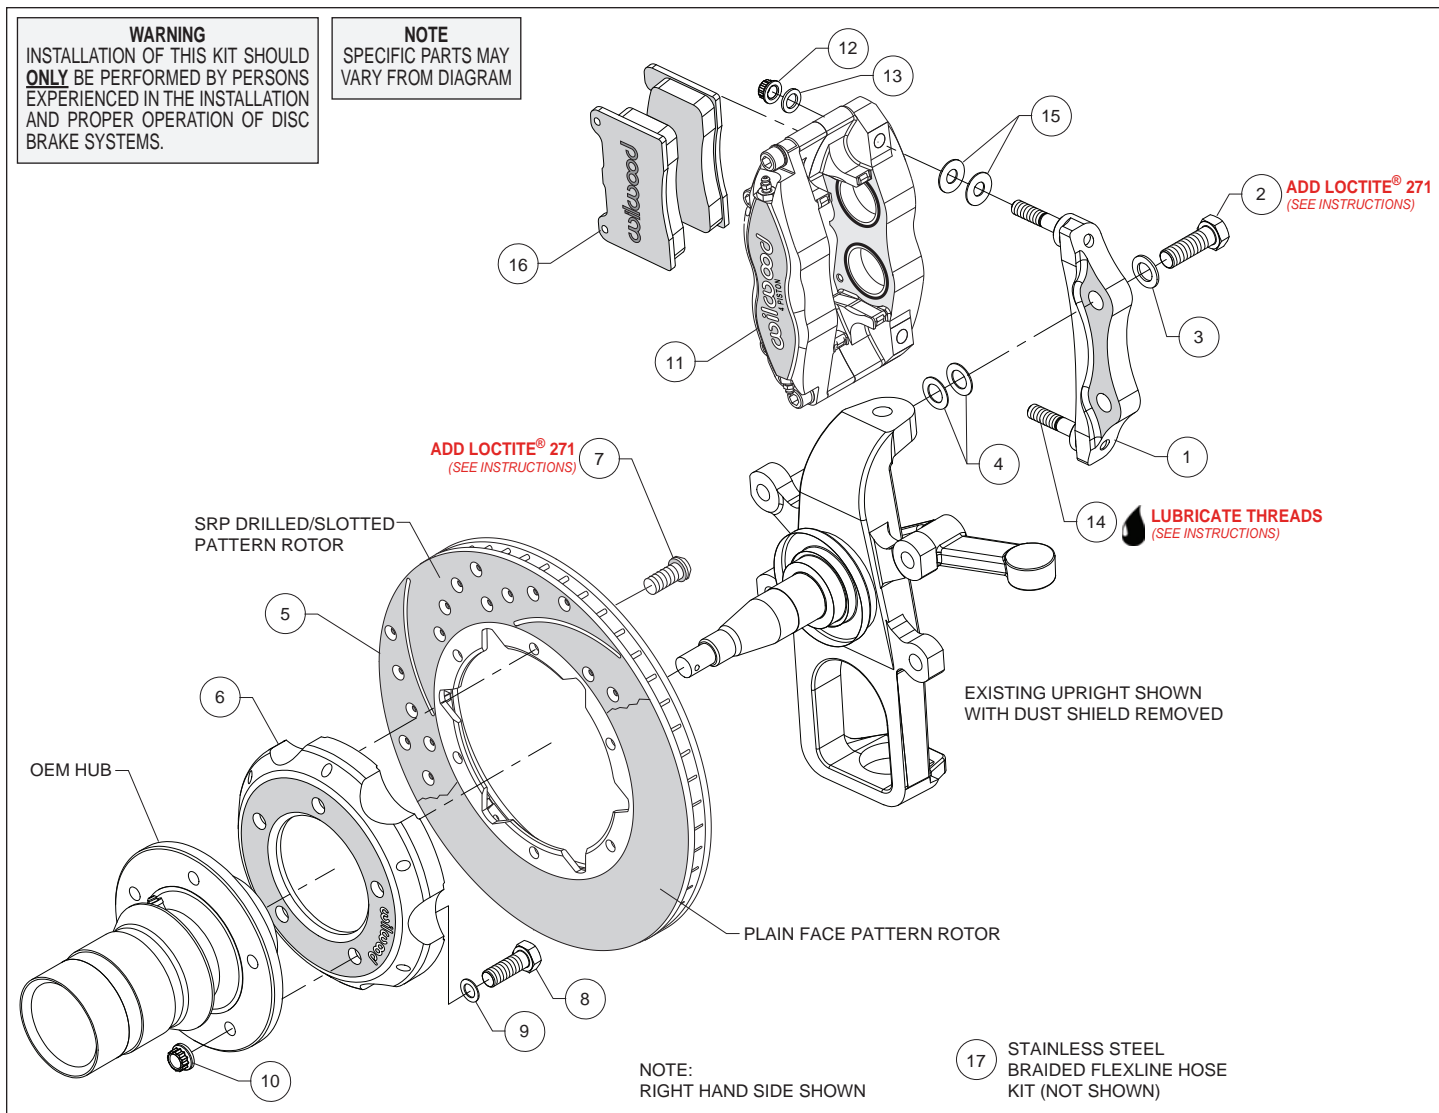

Figure 1. Typical Installation Configuration
Assembly Instructions (numbers in parenthesis refer to the parts list and Figure 1 on the preceding pages):
- The caliper mount bracket (1) should initially be installed with clean, dry threads on the mounting bolts. Orient the bracket, as shown in Figure 1 and Photo 1, and install using bolts (2) and washers (3). Initially place two .032" thick shims (4) on each bolt between the bracket and upright, Figure 1. Temporarily tighten the mounting bolts. **NOTE:** *The bracket must fit squarely against the mount bosses on the upright.* Inspect for interference from casting irregularities, machining ridges, burrs, etc. Later, after the caliper alignment has been checked, the mount bolts will be secured using red *Loctite*[®] 271.
- Orient the rotor (5) and the hat (6) as shown in Figure 1 and Photo 2. Attach rotor to hat using bolts (7). Using an alternating sequence, apply red *Loctite*[®] 271 to the threads, and torque to 25 ft-lbs.
- Lubricate the caliper mounting studs (14) with lightweight oil. Initially place two .035" thick shims (15) on each stud as shown in Figure 1 and Photo 5. Mount the caliper (11) onto the bracket (1) using lock nuts (12) and washers (13), Figure 1. Temporarily tighten the lock nuts and view the rotor through the top opening of the caliper. The rotor should be centered in the caliper, Photo 6. If not, adjust by adding or subtracting shims (4) between the bracket and upright. Once the caliper alignment is correct, remove the bracket mounting bolts (2) one at a time, apply red *Loctite*[®] 271 to the threads, and torque to 77 ft-lbs.
- Insert the brake pads (16) into the caliper with the friction material facing the rotor (5), as shown in Figure 1 and Photo 7. Check that the top of the brake pad is flush with the outside diameter of the rotor, Photo 8. If not, adjust by adding or subtracting shims (15) between the caliper and the bracket. After the caliper pad height is set, torque the caliper lock nuts (12) to 30 ft-lb. Secure the pads in place using the pad clip retainer, Photo 9.